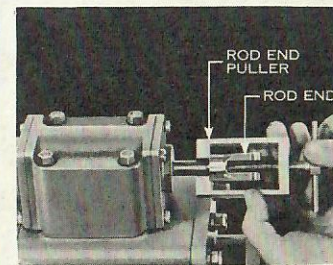

FIG. 4-1
2. Use rod end puller to remove rod end, Fig. 4-1. If rod end puller is not available, disassemble servomotor. See instruction, page No. 114.